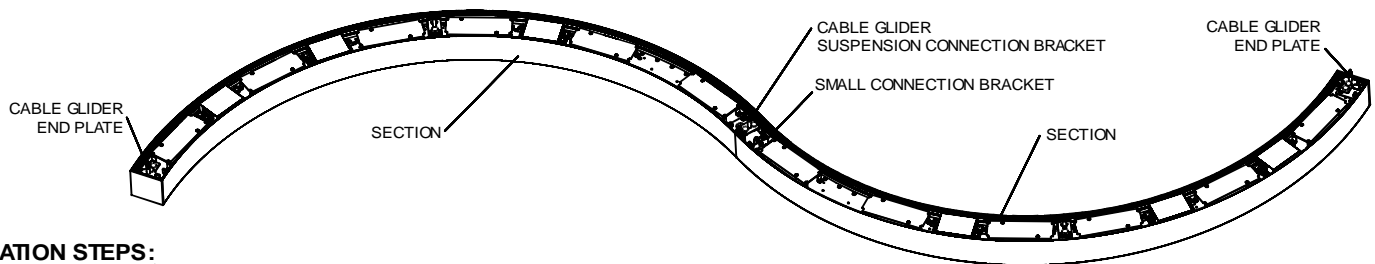

Fig. 1
1. Lay down entire fixture with a desired shape on the floor, remove top covers, and insert suspension connection brackets and end plates but not secure them. Take a measurement between cable gliders (Fig 1).
11. Insert diffusers textured side down by sliding into the end of the section (ensure diffuser overlaps are in the correct orientation) (Fig.1). It is important to install diffusers before connecting section to each other.